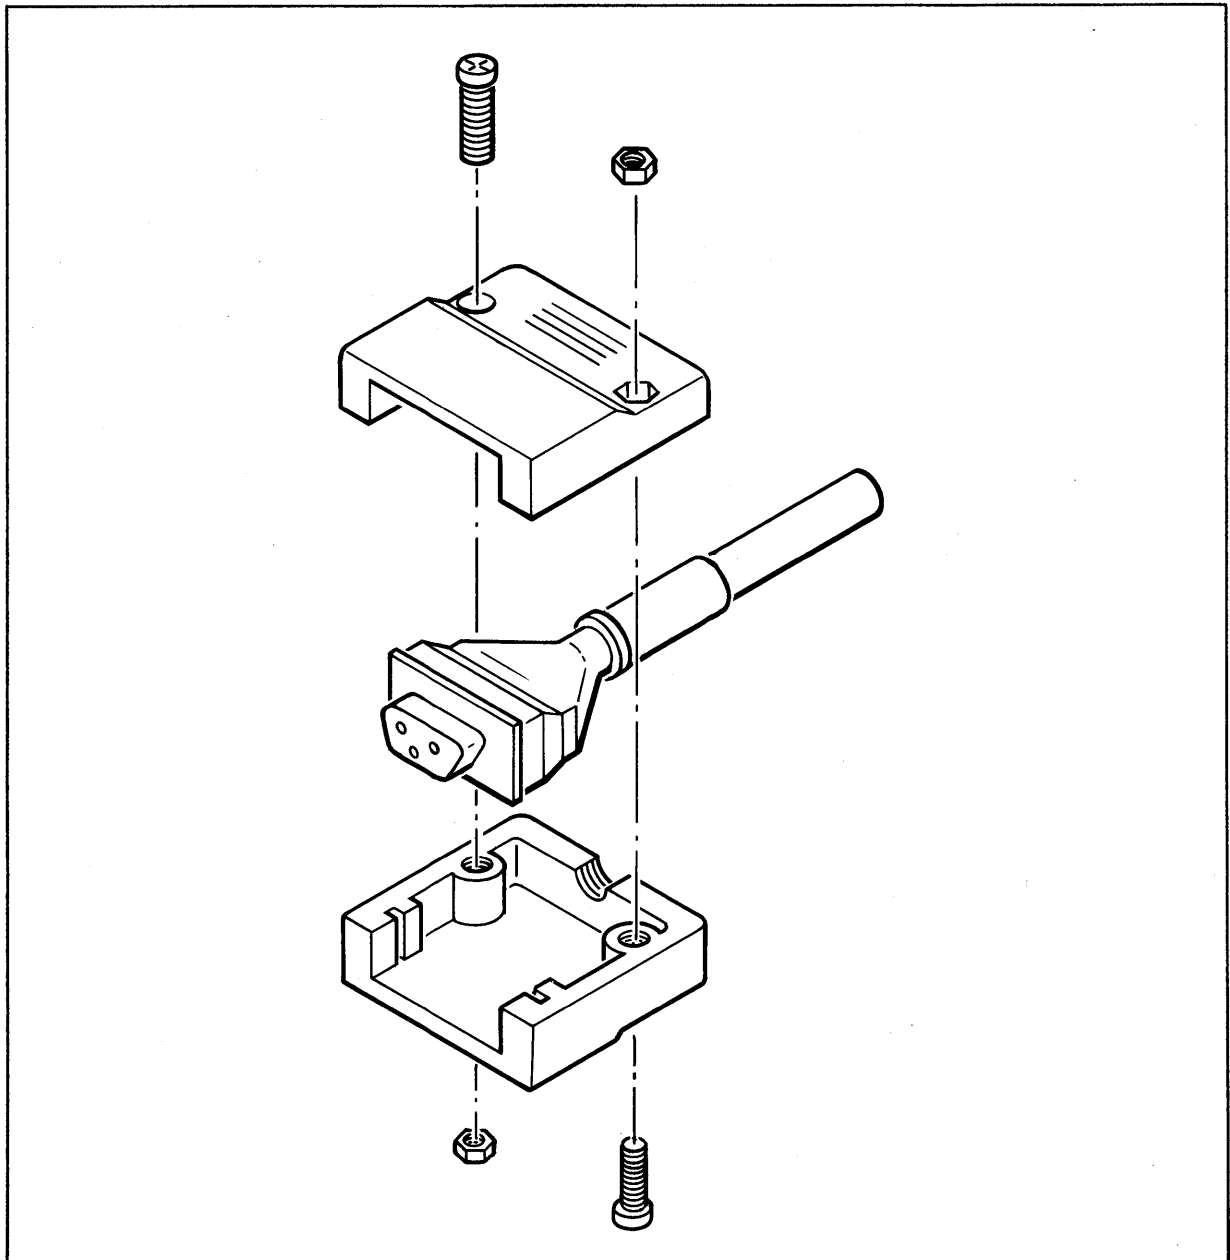

Figure D-9. ATP 3-Wire Connector Shell Assembly Details.
7. Assemble the connector housing with two screws as shown in Figure D-9.